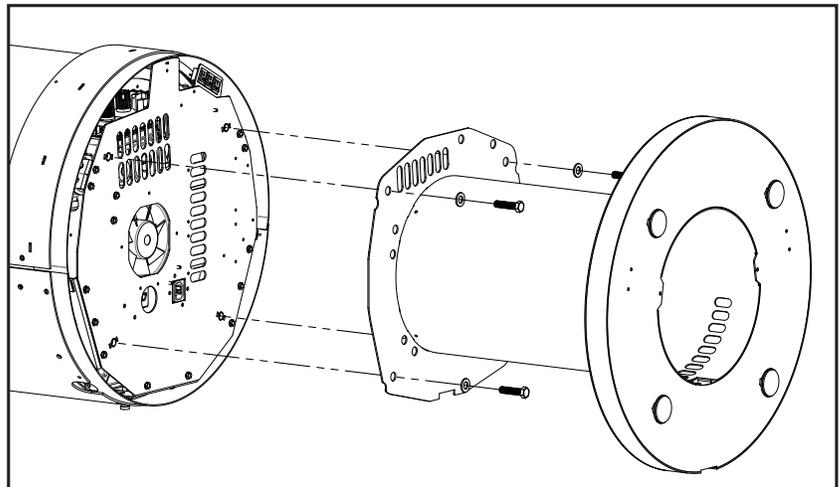

Figure 72: Pole Pedestal Installation
The pole pedestal comes packaged with four (4) hex head bolts and four (4) washers used to secure the pedestal onto the unit. Align the pedestal vent slots with those on the bottom of the unit. Fasten the pole pedestal to the unit using the same threaded holes that the leveling legs were installed in (see Figure 72).